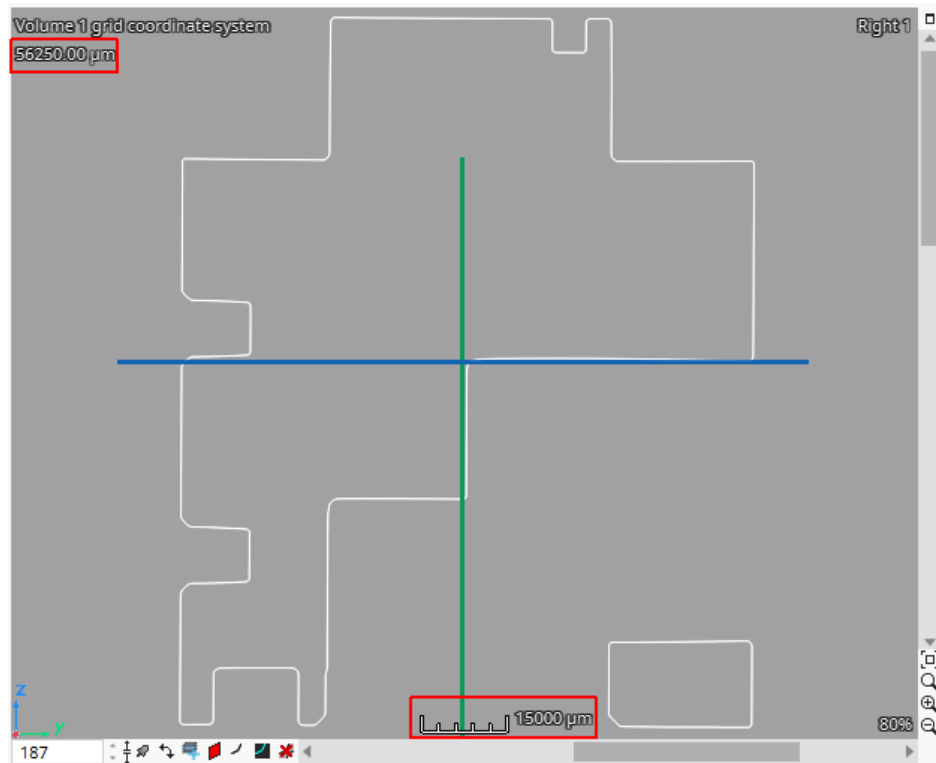

Figure 3-7: Changed length unit
- ➔ The units for the current slice position and the scale bar in the 2D windows will immediately be updated (see Figure 3-7).